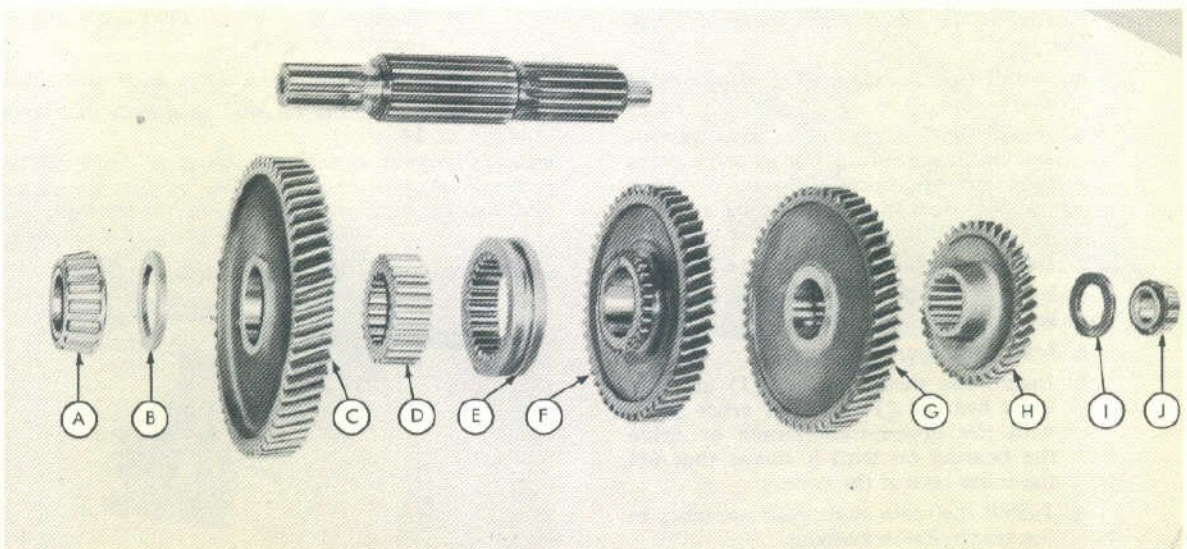
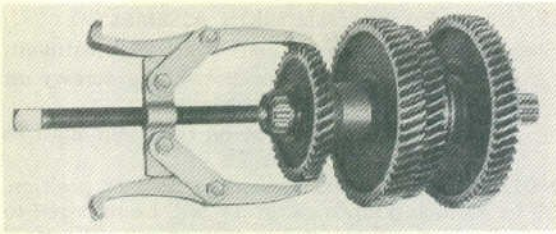
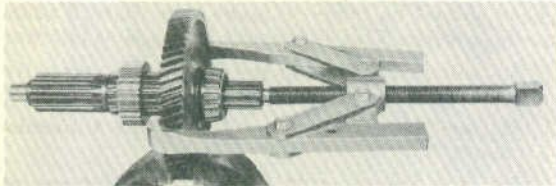

Fig. 17
Fig. 18
Fig. 19
- Pull the front bearing (J-Figure 17), thrust washer (I-Figure 17) and the fourth gear (H-Figure 17) as a unit. See Figure 18.
- Remove the second gear (G-Figure 17).
- Remove the third gear (F-Figure 17).
- Remove the sliding coupling (E-Figure 17).
- Pull the first gear (C-Figure 17), thrust washer (B-Figure 17), and the rear bearing (A-Figure 17) as a unit. See Figure 19.
- Remove the connector (D-Figure 17).
Step 2—Assemble the main shaft assembly. See Figure 17.
- Install the connector (D) on the main shaft.
- Install the first gear (C) thrust washer, and the rear bearing. Use an arbor press with the appropriate sleeve, or drive the bearing into position using a sleeve that fits the inner race of the cone.
- Install the sliding coupling (E).
- Install the third gear (F) and the second gear (G).
- Install the fourth gear (H).
- Install the thrust washer (I) and the front bearing (J). Use an arbor press with the appropriate sleeve or drive the bearing on with a sleeve that fits the inner race of the cone.